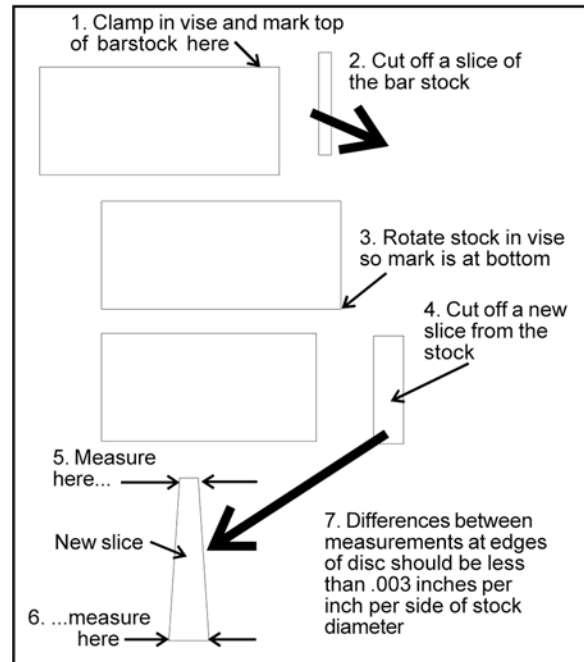

Figure 22
- With bar stock securely clamped in the vise, make a cut through the bar stock (see Figure 22.)